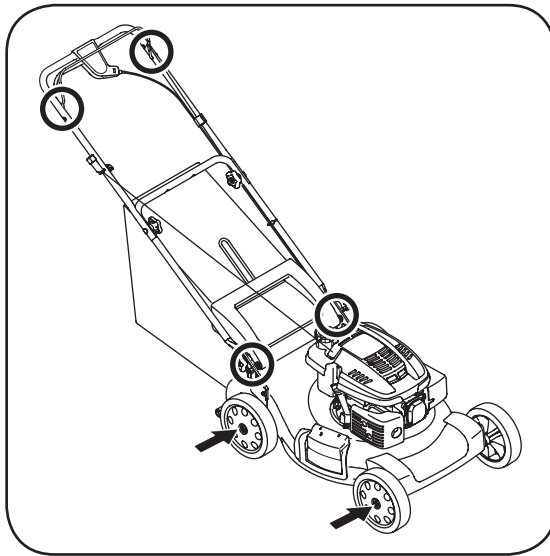

Figure 5-1: Lubrication areas on the mower.
1. Lubricate pivot points on the blade control at least once a season with light oil. The blade control must operate freely in both directions, Figure 5-1.
2. Lubricate the wheels at least once a season with light oil (or motor oil). If wheels are removed for any reason, lubricate surface of the axle and inner surface of the wheel with light oil, Figure 5-1.
3. Lubricate the torsion spring and pivot point on the rear discharge door periodically with light oil to prevent rust, Figure 5-1.